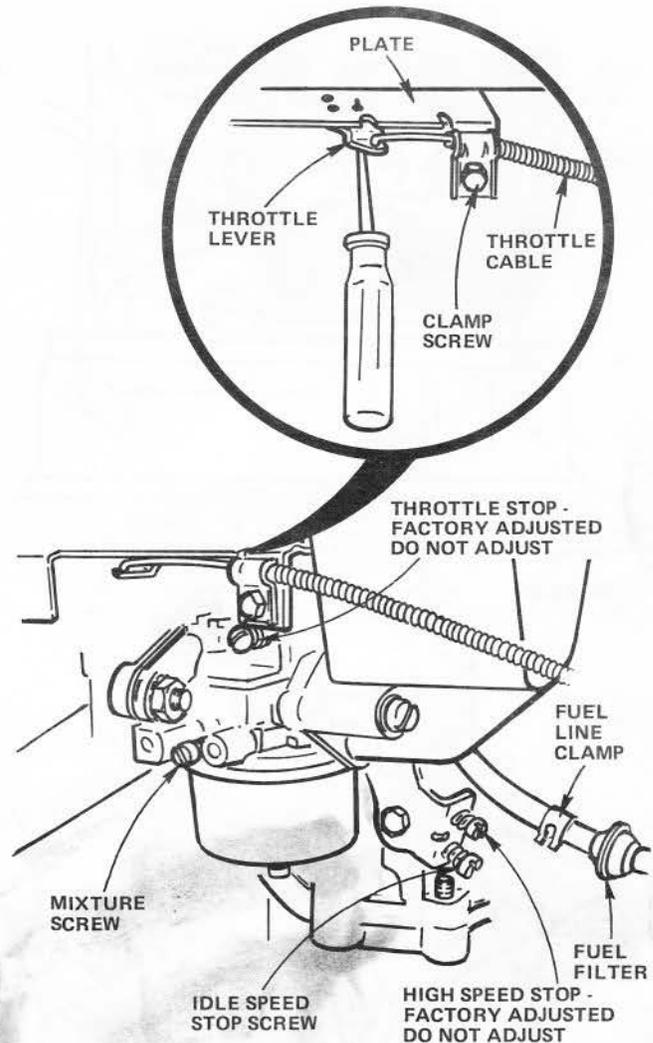

FIGURE 31
- c. Check that hole in Throttle Lever and hole in Plate line up (Fig. 31 - Inset). If holes are not aligned, loosen Clamp Screw and move Throttle Cable until holes are aligned. Tighten Clamp Screw.
- a. Remove Clamps from fuel lines at front and rear of Fuel Filter (Fig. 31).
HARD TO START Choked improperly, flooded Engine  Clogged Fuel System Dirty Air Cleaner Spark Plug dirty or improper gap Defective Battery Defective Ignition or loose wiring Water in gasoline or old fuel  Improper Carburetor adjustment	Place Throttle Control in "FAST" position (Fig. 10) and run starter several times to clear out gas Remove and clean Tank and lines. Replace Fuel Filter Remove and clean (Fig. 28) Clean, adjust gap or replace (Fig. 30) Recharge or replace Check the wiring and Spark Plug Drain Fuel Tank and Carburetor, use fresh fuel and replace Spark Plug Make necessary adjustments (Fig. 31)
ENGINE MISSES OR LACKS POWER Engine overload Clogged Fuel Tank or Fuel Filter Partially plugged Air Cleaner Improper Carburetor adjustment Dirty Engine Air Screen Low oil level or dirty oil Spark Plug dirty, improper gap or wrong type Faulty ignition Poor compression Oil in gasoline	Shift to a lower gear (Fig. 24) or reduce load Remove and clean Tank; replace Fuel Filter Remove and clean (Fig. 28) Make necessary adjustments (Fig. 31) Clean Air Screen (Fig. 25) Add or change oil (page 14) Replace Spark Plug (Fig. 30) Check Spark Plug and for loose wires Major Engine overhaul Drain Gas Tank and Carburetor and refill
ENGINE OVERHEATS Dirty Air Screen Low oil level or dirty oil Dirty Engine Partially plugged Muffler Partially plugged Air Cleaner Stale fuel or improper Carburetor adjustment	Clean Air Screen (Fig. 25) Add or change oil (page 14) Clean Engine Cooling Fins (page 16) Remove and clean Muffler or replace Remove and clean (Fig. 28) Use fresh fuel and adjust Carburetor (Fig. 31)